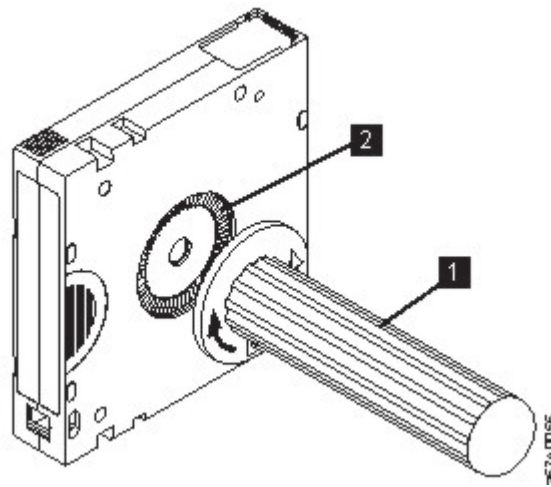

Figure 95. Rewinding the tape into the cartridge
5. To rewind the tape, insert the cartridge manual rewind tool (1 in Figure 95 on page 168) into the cartridge's hub (2) and turn it clockwise until the tape becomes taut.